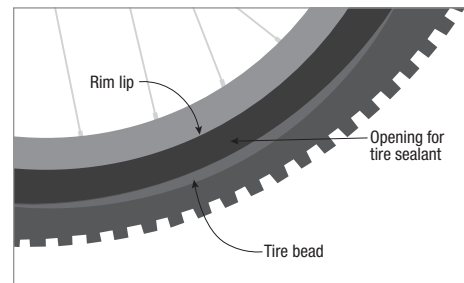

Figure 10
7. Place your hands on the uninstalled tire bead opposite the valve. Then push the bead over the rim lip, working your way around the rim until most of the bead is in the center of the rim. Leave a section of the bead off the rim so that sealant can be poured into the tire (Fig. 10).